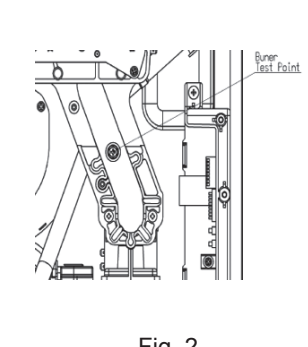

Fig. 2
- Remove the screw and attach the manometer to the burner test point located on the gas control. Figure 2.